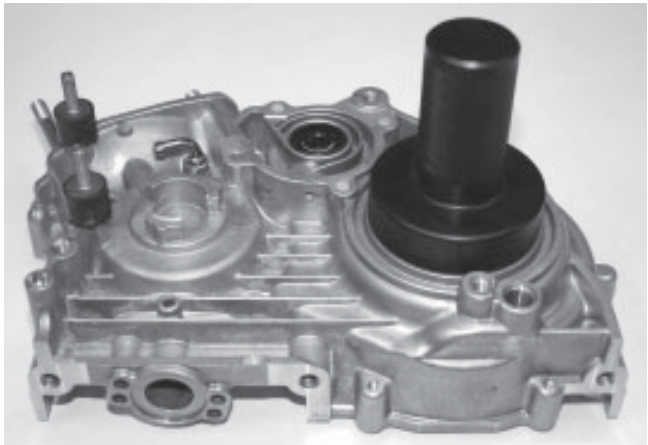

Fig. 68
- ⇒ Lay the ignition-side housing half on a flat surface, see Fig. 68.